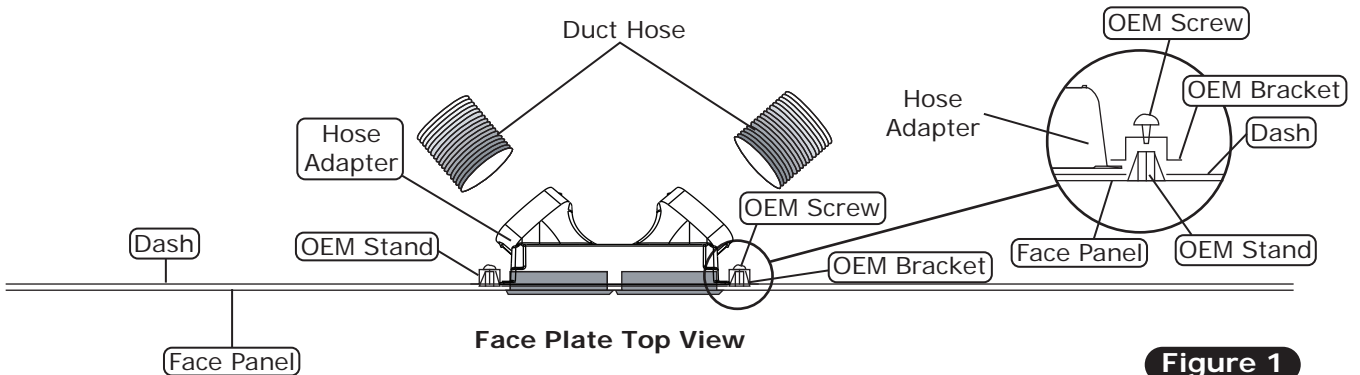

Figure 1
7. Modify (2) louvers by trimming the upper and lower clips as shown in Photos 7 and 8, below.
8. Install (2) lengths of duct hose onto the louver adapter at this time.
10. Install louver adapter over the dash opening. Reinstall the OEM bracket and OEM screw to secure the adapter to the dash (See Figure 1, below).